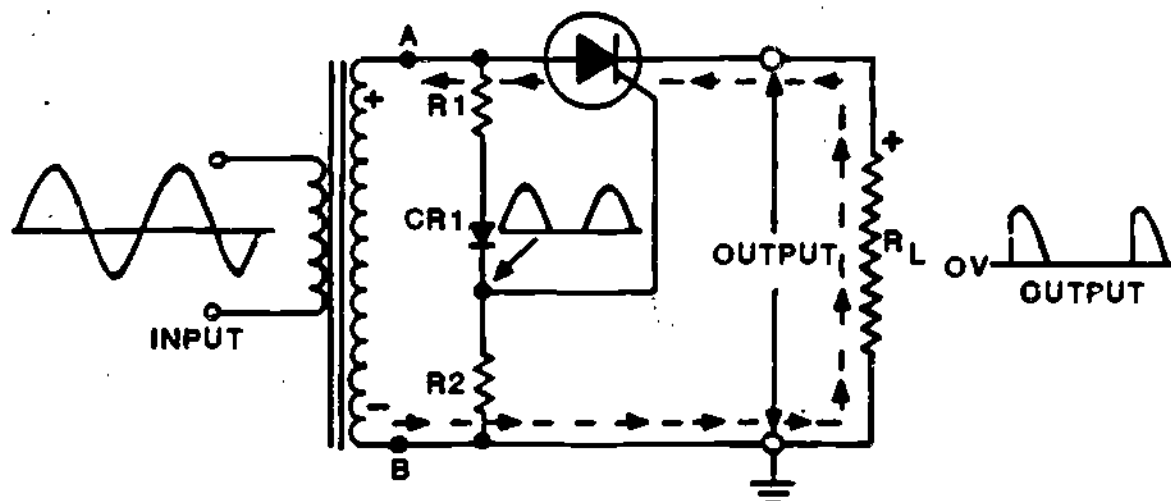

Figure 9
13. Recall that once an SCR is forward biased it conducts, when a positive voltage is applied to the gate. In other words, the gate fires the SCR. Remember also that once the SCR starts to conduct it continues to conduct as long as it remains forward biased. Study the schematic shown in Figure 9 and notice that the SCR is forward biased during each positive alternation, when terminal A is positive with respect to terminal B.